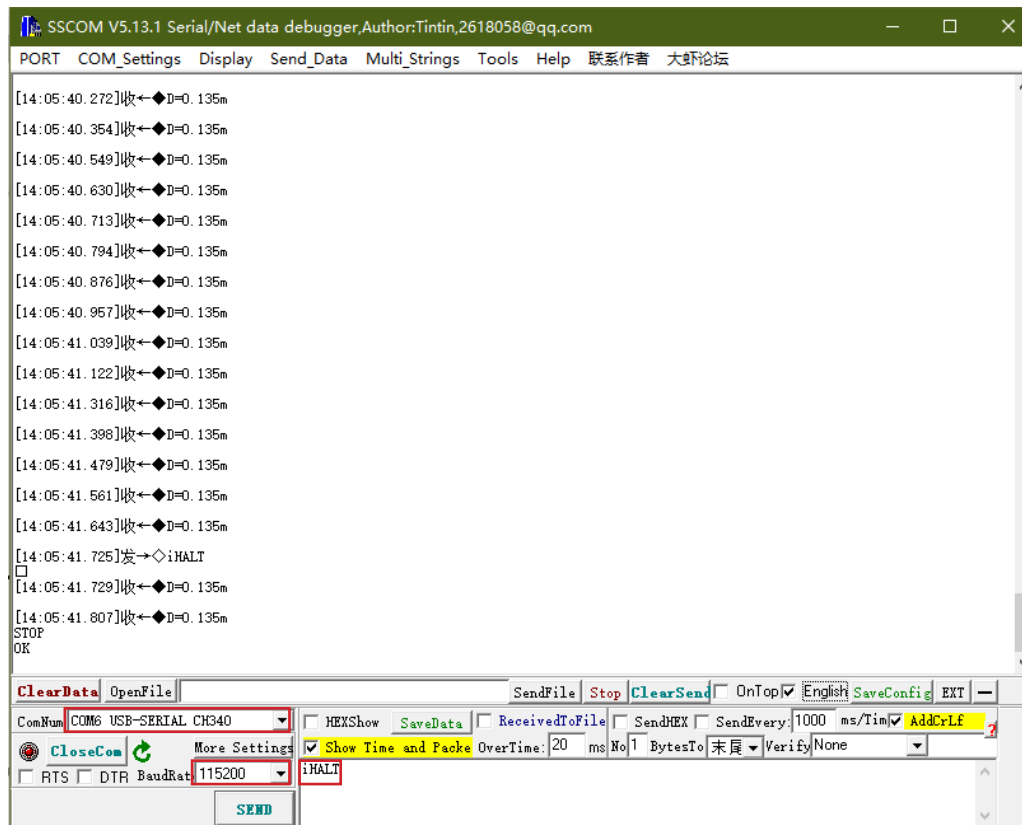

Figure 8. Serial port assistant software window diagram
2. Click to open the serial port, if the wiring is correct, distance data will be continuously displayed. When other parameters need to be set, enter the command "iHALT" (lowercase "i", uppercase "HALT") in the command window to stop the measurement. At this point, the data reporting will cease, as shown in Figure 8: